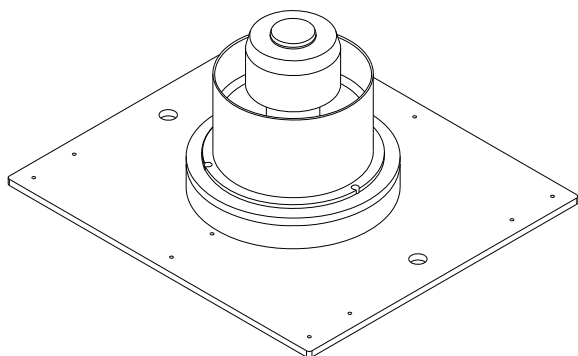
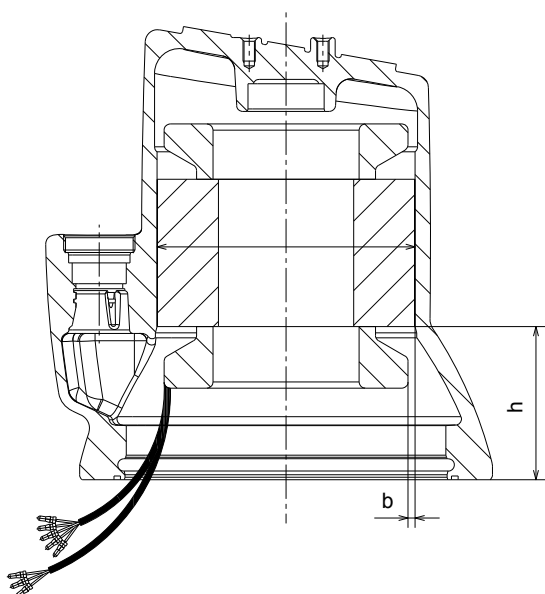

Fig. 9 Assembled stator guide
Fig. 10 Stator insertion height
1. Assemble the baseplate fixture (C) with the correct size stator fixture (B) to form a stator guide. See fig. 9 and fig. 10.
2. Place the stator (48) on the assembled stator guide.
3. Make sure the stator is inserted to the correct height according to fig. 10 and the table below.
8. Make a control measurement according to fig. 10 and the table.
10. Connect and clamp the stator wires to the connector pins and mount the pins into the internal plug connector (176). See section 8. *Sensors*. Use molex plug removal tool (pos. N), if necessary.